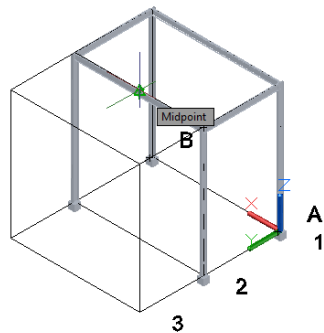

Figure 3-42 Model after creating the grid
4. Rotate the model and select the midpoint on the top edge of the member, as shown in Figure 3-42; you are prompted to select the second point.